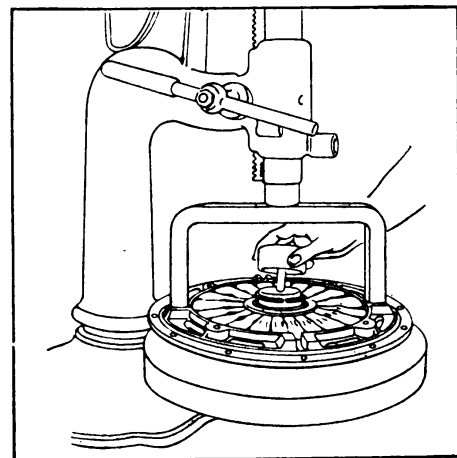

Figure 413
Place coned pilot tool on the sleeve and a NEW snap ring (117) on the cone. Then place the cupped tool on the snap ring and drive the ring home. Figure 413.